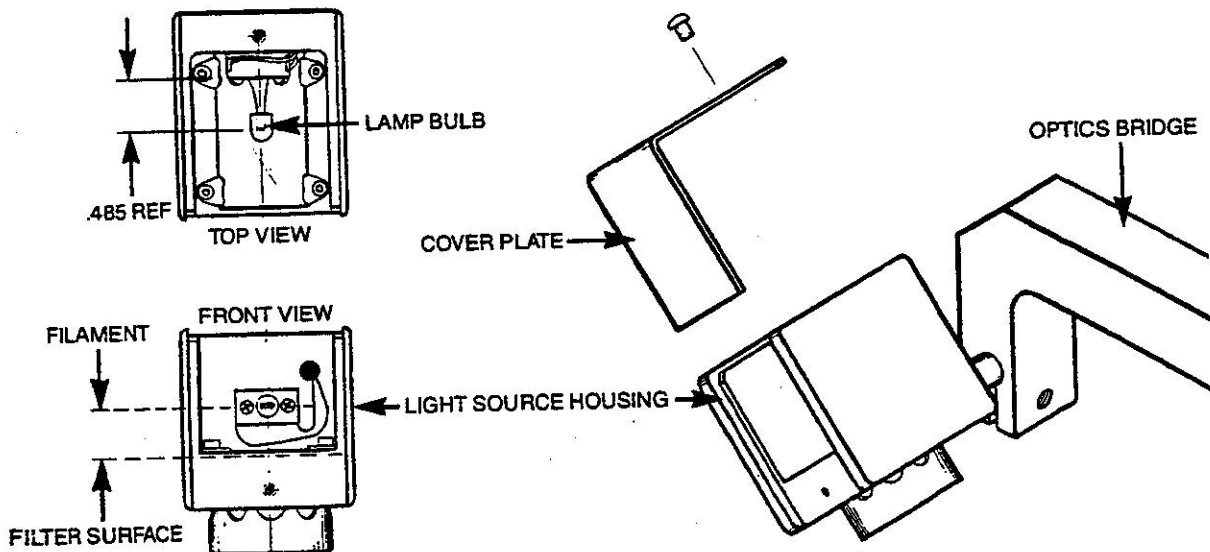

Figure B-3. Illuminator Lamp Replacement
5. Place a new bulb in the socket and check the reference dimension. For optimum illumination, set the bulb filament parallel to the filter (see Figure B-3). If the new lamp does not light, check the lamp wire connection at the rear of the optics bridge.